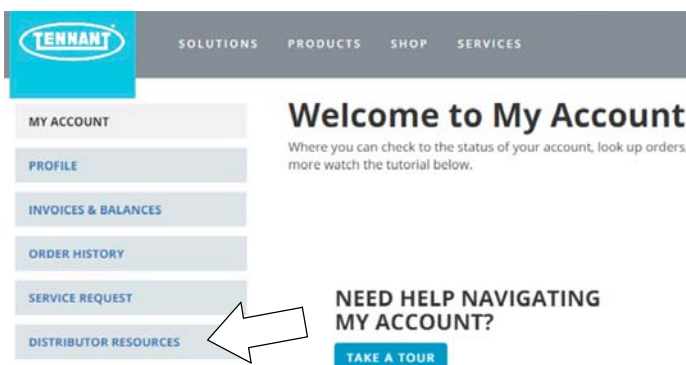

Fig. 12
2. Once logged in to the “My Account” website, click on the “**DISTRIBUTOR RESOURCES**” link as shown below (Figure 12).